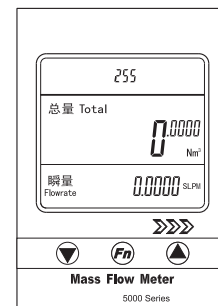
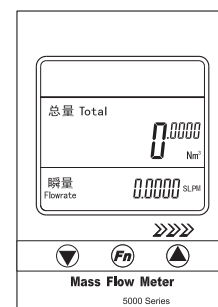

Figure 6-9 Multi-device communication mode
Figure 6-10 Single-device communication mode
(4) Communication Modes switches (Figure 6-9, Figure 6-10)
- Set the address of the meter(value of *SEt Addr*) as (3).E. such as 255;
- Set the meter to *Multi-device communication mode* (select value of *PrOTOCOL* to P1--255 or P2--255) as (3).D;
- Set the meter to Single-device communication mode (select value of *PrOTOCOL* to P0--000) as (3).D;